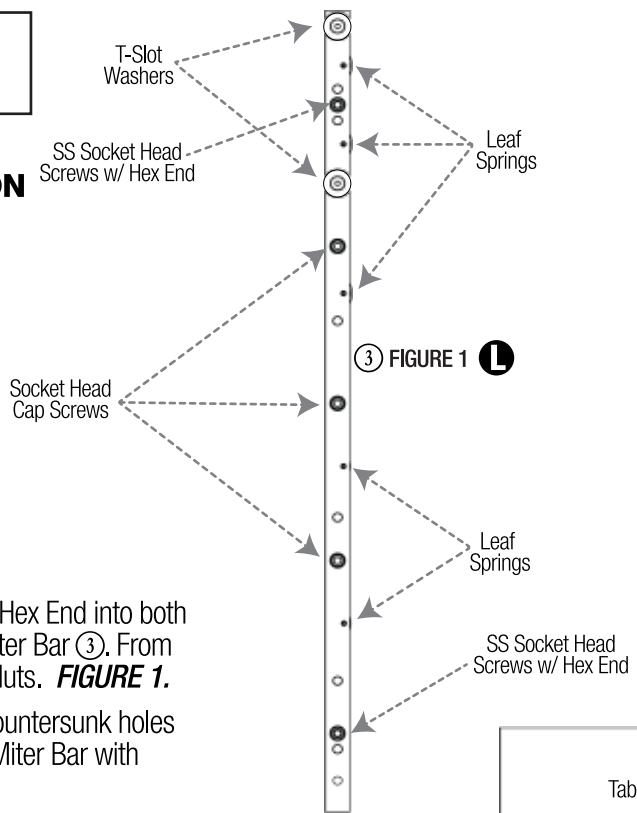

FIGURE 2 **L**
2. Insert (3) Socket Head Cap Screws into the remaining countersunk holes on the Miter Bar. Loosely secure from the other side of the Miter Bar with Oval Nuts.
3. Slide the Oval Nuts on the Miter Bar into the slots on the bottom of the Sled Base ①. (*Leaf Springs facing inward on the Miter Bar.*)
4. **L** Take a measurement from the left side of your table saw blade to the inside wall of your left miter slot and subtract 1/32". **FIGURE 2.**